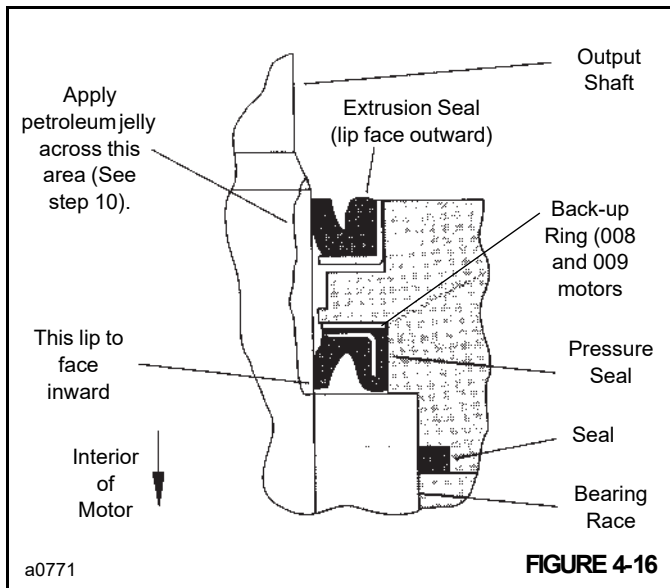

FIGURE 4-16
- Before installing the flange and seal assembly over shaft (9) Figure 4-7, place a protective sleeve or bullet over the shaft. Then lubricate the space between exclusion seal (2) and pressure seal (5), as well as the lips of both seals Figure 4-16.